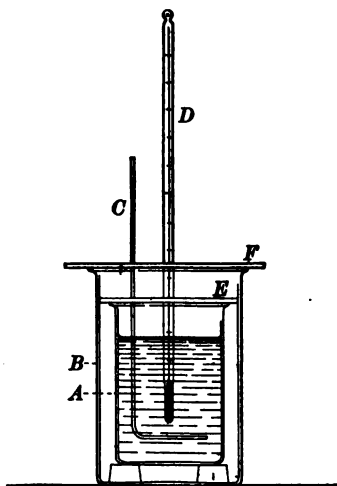

FIG. 51
**131. Heat of neutralization.** Prepare a calorimeter as represented in Fig. 51. The calorimeter beaker *A* should hold approximately 400 cc., should be of light weight, and, if
**132. Heat of solution.** Accurately measure 300 cc. of pure water into the calorimeter beaker *A* (Fig. 51). Grind about 15 g. of potassium nitrate to a very fine powder in a mortar, and place it in a test tube. Weigh the tube and nitrate very accurately and immerse the lower end of the tube in the water in the calorimeter until the nitrate has come to the temperature of the water (about fifteen minutes). Make a note of the temperature. Remove the tube with as little loss of water as possible, roughly dry it with a towel, and at once pour most of the nitrate into the water. Quickly replace the covers, as in § 131, stir vigorously, and note the lowest temperature recorded. Then weigh the tube and the remaining nitrate, deducting this weight from the original one to get the weight of the nitrate added. From the data so secured, together with the calorimeter constant, calculate the heat of solution of 1 gram-molecular weight of potassium nitrate. Berthelot found this to be -8300 cal.